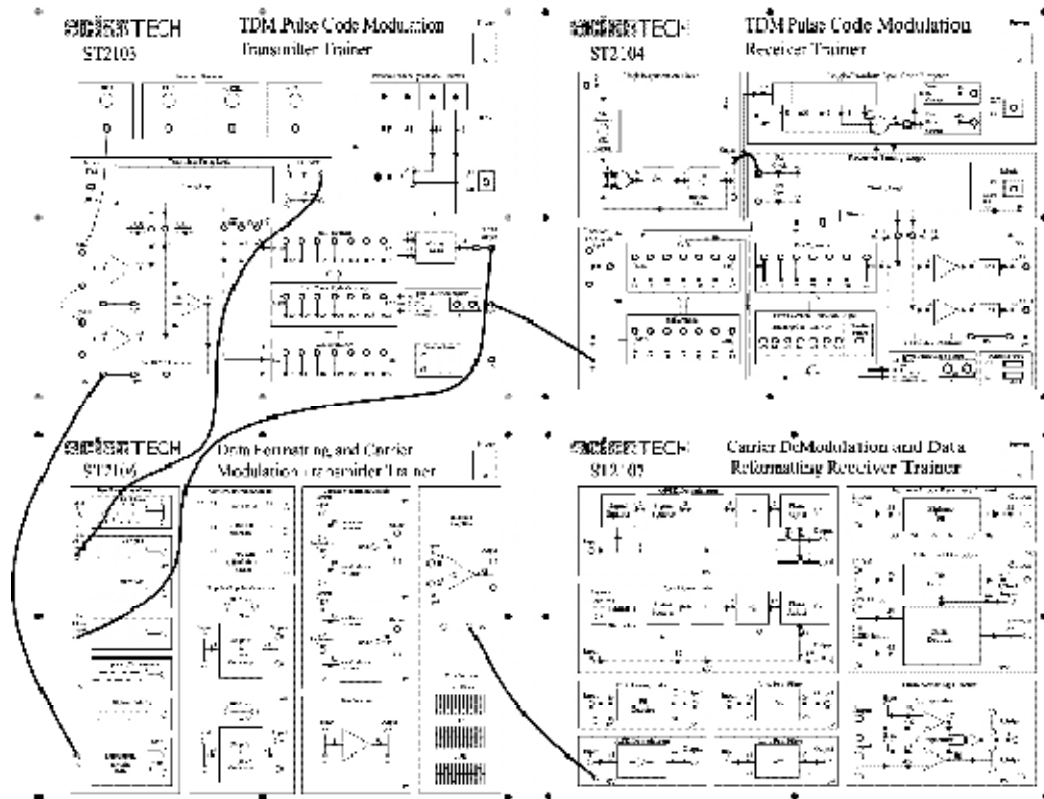

Figure 5
10. Make the rest of the connections as shown in configuration figure 5.